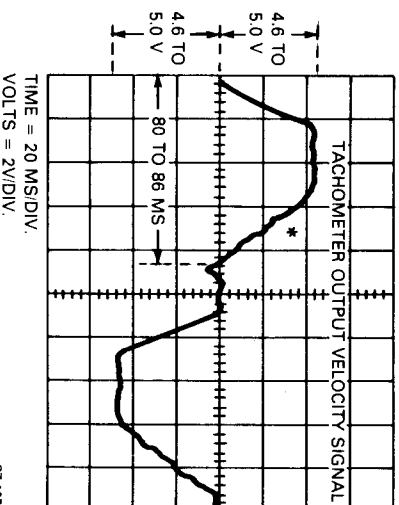

Figure 9-10 Tachometer Output Velocity Signal
11. Observe the trailing edge of the waveform (as indicated by an asterisk in Figure 9-10). There should be a slight "stepping" slope. If the observed slope has spikes in it, the positioner needs replacing as it is not rolling smoothly.
8. Set the oscilloscope to sync internal, positive-going, and observe the waveform shown in Figure 9-10.